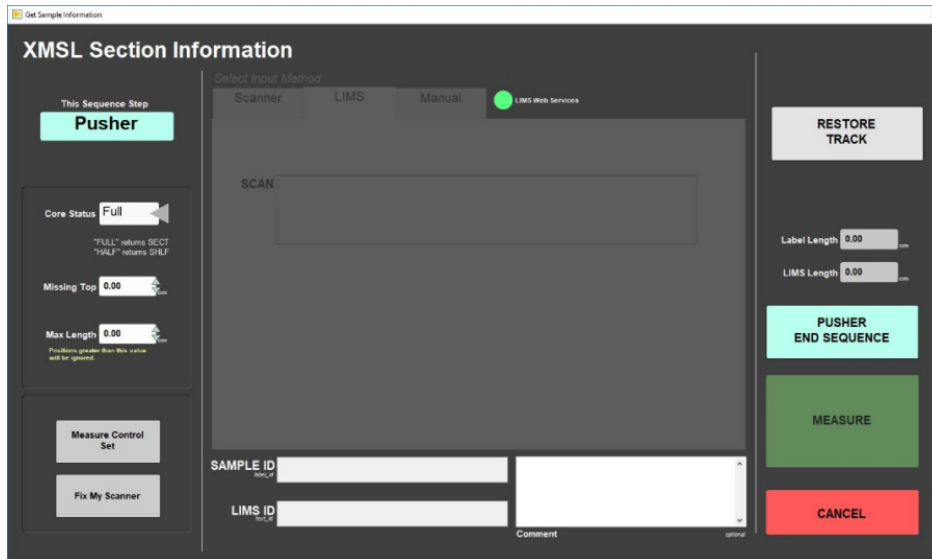

Figure 9. Sample Information Window- Pusher End Sequence View.
11. **XMSL Section Information** window is displayed on the screen (Figure 9).